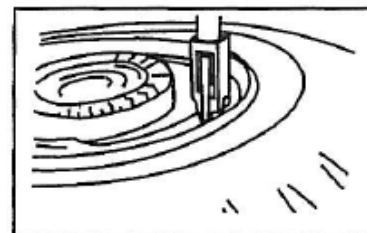

Figure 2
1. Place the bead breaker into the continuous pry bar pocket, with the hook under the lip of the bead seat band. (Fig.2)
3. Adjust the ram adjusting screw, by hand, so that the bead breaker is less than perpendicular ( $90^\circ$ ) to the wheel. (Fig. 2)